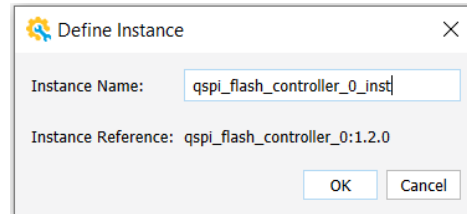

Figure 6.5. Define Instance
5. After generating the IP, the **Define Instance** window opens as shown in Figure 6.5. Modify the instance name if needed. Then, click **OK**.